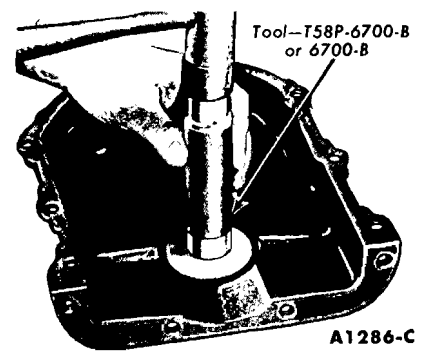

FIG. 45—Oil Seal Installation
2. Coat a new seal with grease, and install the seal (Fig. 45). Drive the seal in until it is fully seated in the recess. Check the seal after installation to be sure the spring is properly positioned in the seal.